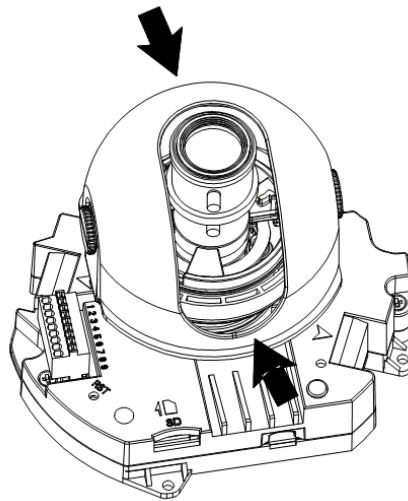

Figure 2-13
a) For the IR series product, you can skip current step and go the step b) directly. For the non-IR series product, push the port slightly to remove the decoration enclosure from the black plastic enclosure. See Figure 2-13.